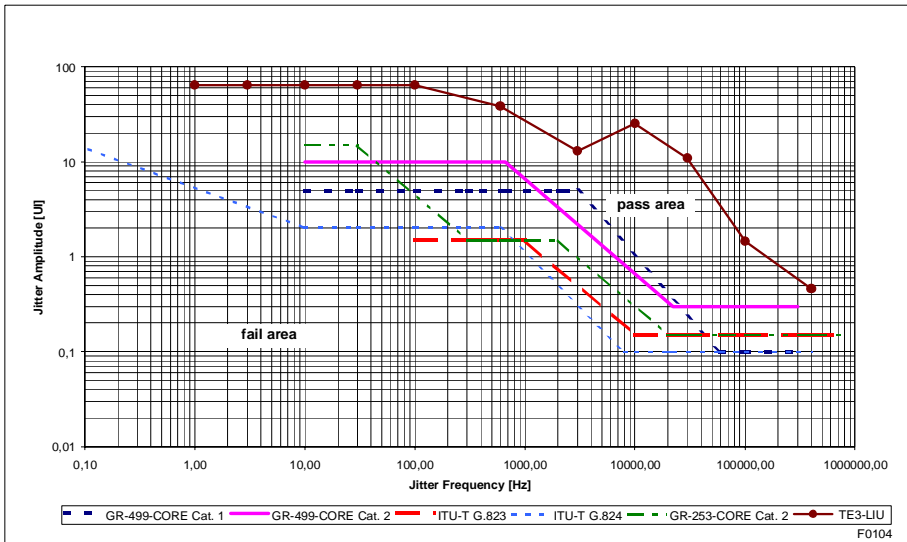

Figure 12 Jitter Tolerance
1) Measured with maximum input jitter applied (see Figure 12).